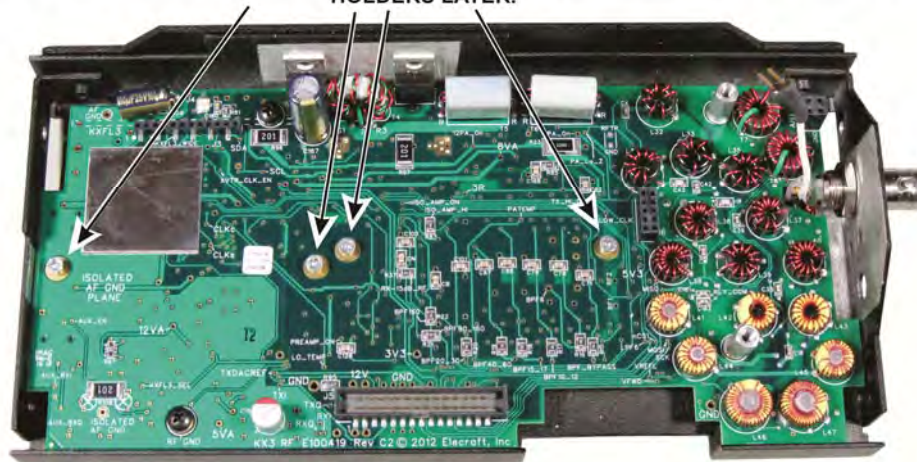

Figure 40. Checking the Alignment of the Battery Holder Standoffs.
- ☐ Thread 2-56 screws into the remaining four holes in the RF board as shown in Figure 40, make adjustments as necessary for them to fit just as you did in the previous step and then remove them. These screws will be replaced later to secure the battery holders.